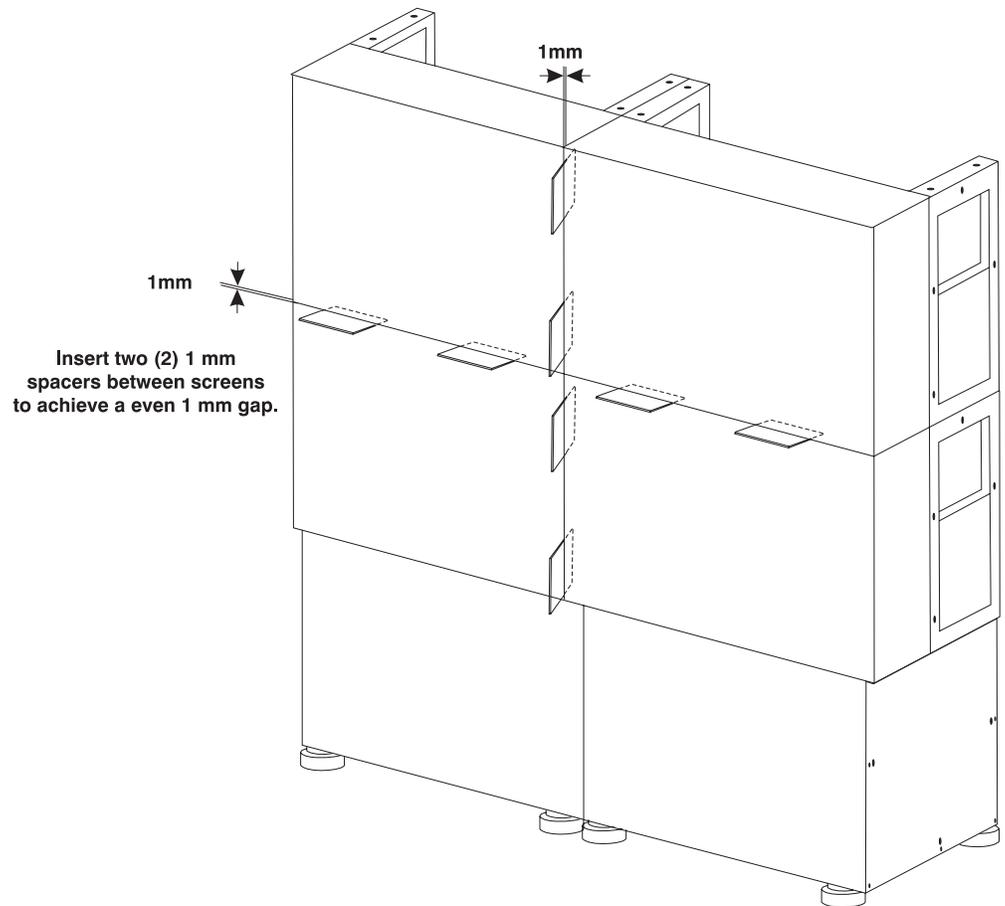

Figure 2.13. Spacing screens
- e) Place two (2) 1mm plastic spacers on top of each screen installed to the first row of cubes. Spacers should be at equal distances from the edge of the cube. See Figure 2.13.
- h) Slide two (2) additional 1mm spacers between the two upper screens. The screens should be square and even with a 1mm gap. Loosen and re-tighten the bolts to adjust spacing. Follow the same precautions indicated in step c. See Figure 2.13.